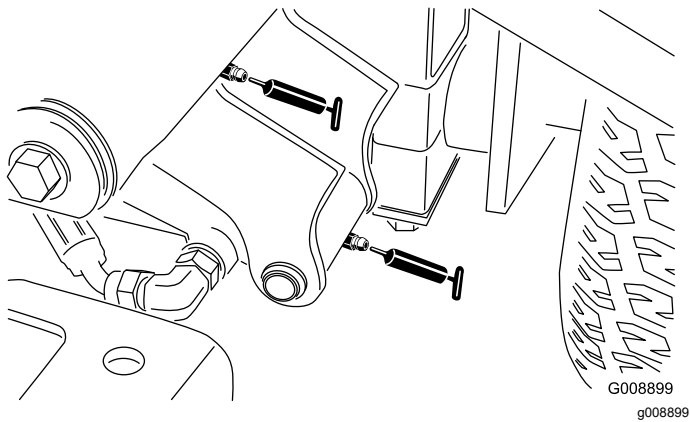

**Figure 38**
- 2 rear lift-arm pivots and lift cylinder (Figure 38)